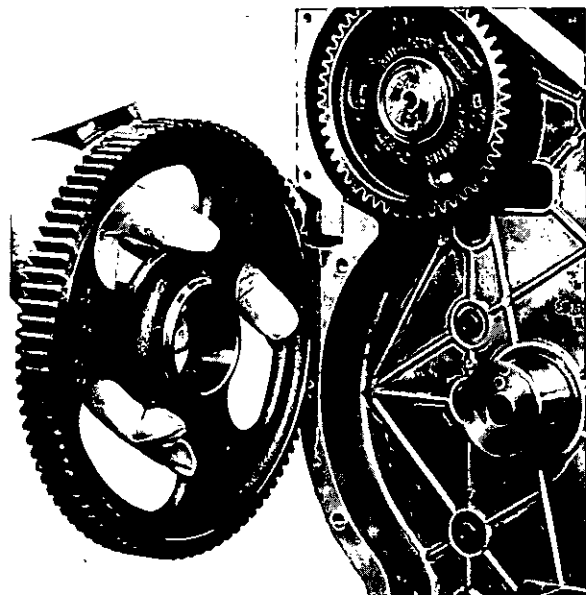

Fig. G.4
3. Remove idler gear from its hub (Fig. G.4).